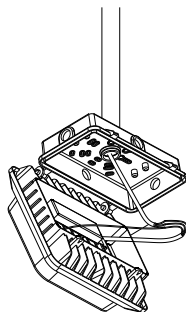

Figure 1-5
5. Connect the input line and ground; If the fixture is equipped with sensor, adjust the sensor settings, Take relevant waterproof measures after the wires are connected; Figure 1-5